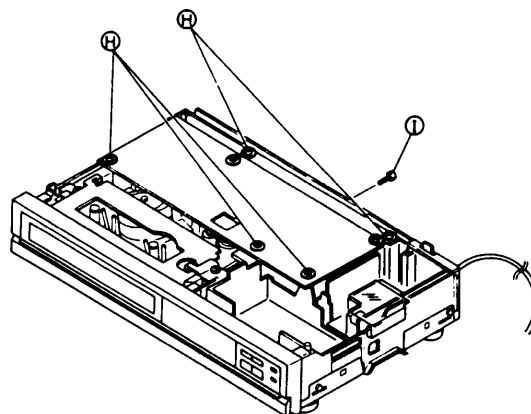

Fig. 1-1-4
2. Refer to Fig. 1-1-4 and take out 5 screws (H) and 1 screw (I) from main board assembly.